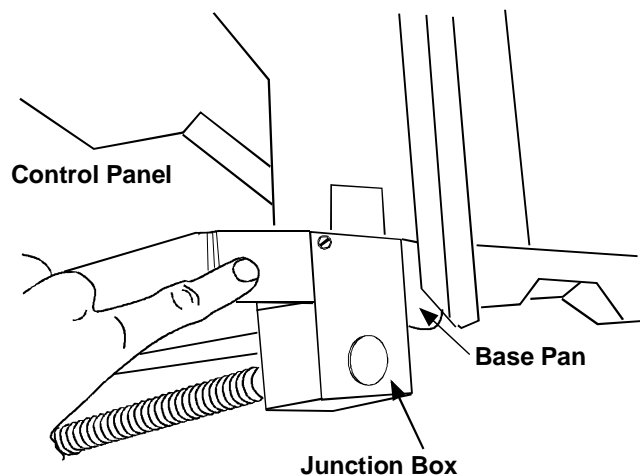

Figure 2
11. Attach the metal box to the chassis with the two screws provided. See Figure 2.